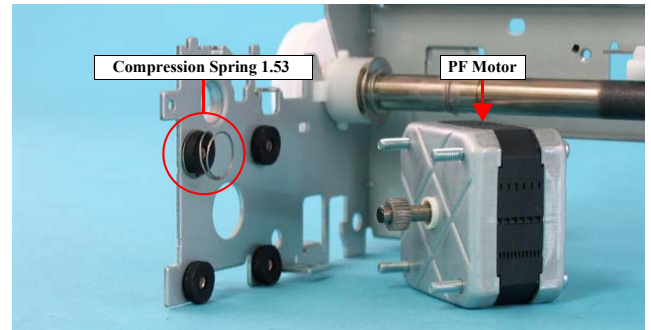

Figure 4-89. Removing PF Motor (3)
- When installing the PF Motor, make sure to attach Compression Spring 1.53 to the part shown in Figure 4-89.